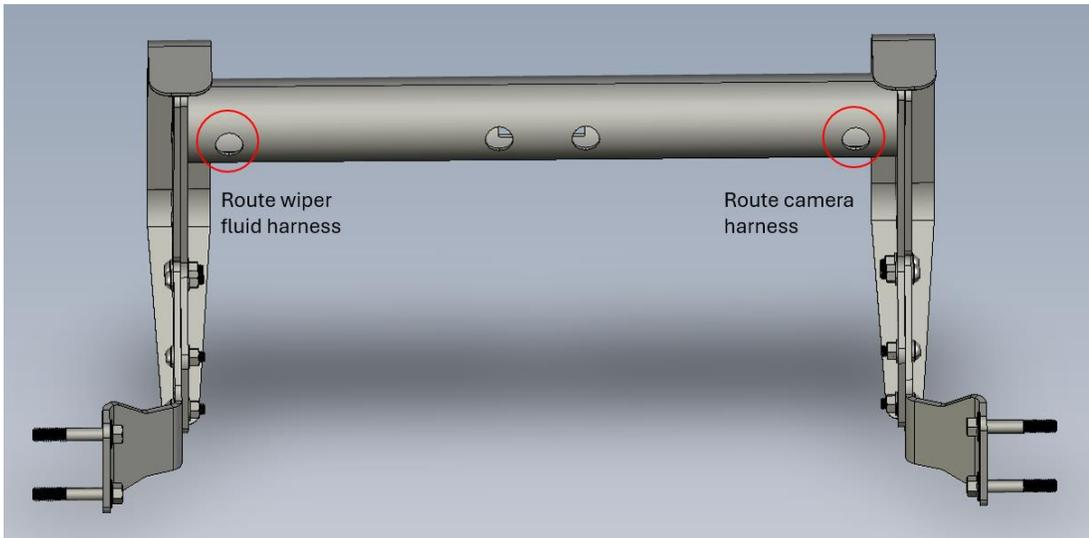

Figure 22
9. Route each harness through backside of Lower Weldment, and feed connections through front Lower Weldment camera bezel opening. See Fig. 22